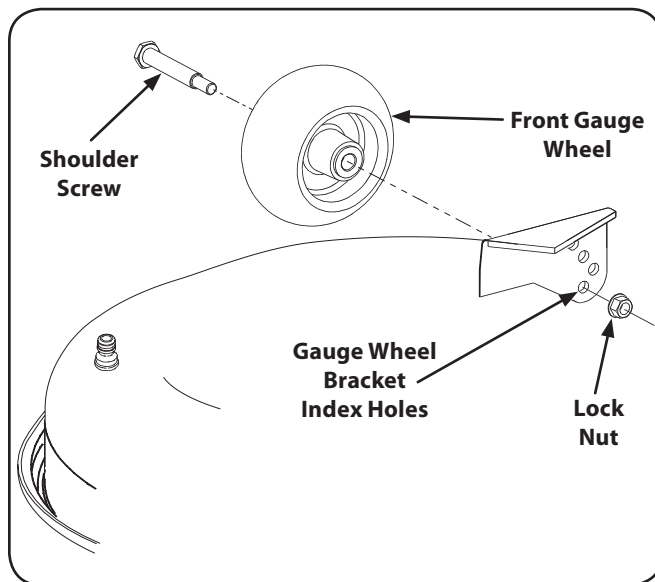

Figure 6-6
2. Remove the lock nut securing one of the front gauge wheel shoulder screws to the deck. Remove the gauge wheel and shoulder screw. See Figure 6-6.